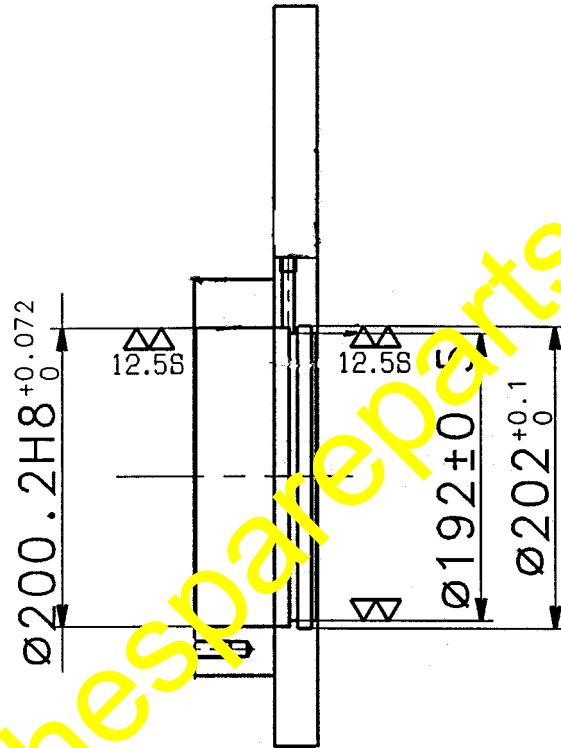

Figure 8
- a. Visually inspect the trunnion to find the wear area. Decide the amount of material missing around the hole I.D. and how much has to be rebuilt. (Figure 8)